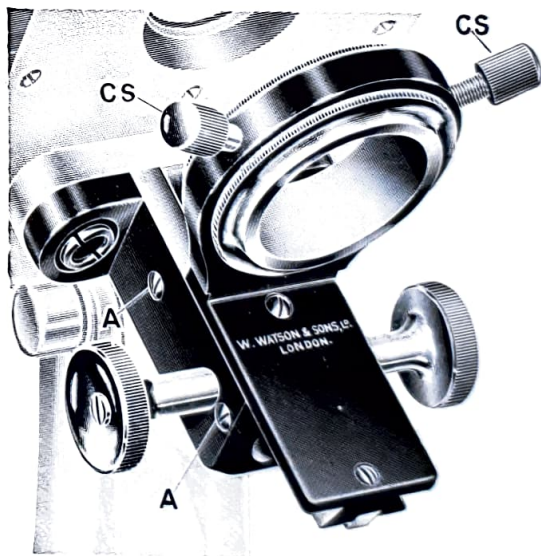

FIG. 10.
3. Centring Substage (as illustrated, Fig. 10, page 41). For this, in addition to the plain casting mounted on the rackwork slide, centring screws CS are provided so that any form of condenser can be axially aligned to the optical system; a new form of substage condenser mount (page 31) is supplied in which the optical part of the condenser hinges aside laterally. It is secured by a steel catch and released by a trigger.